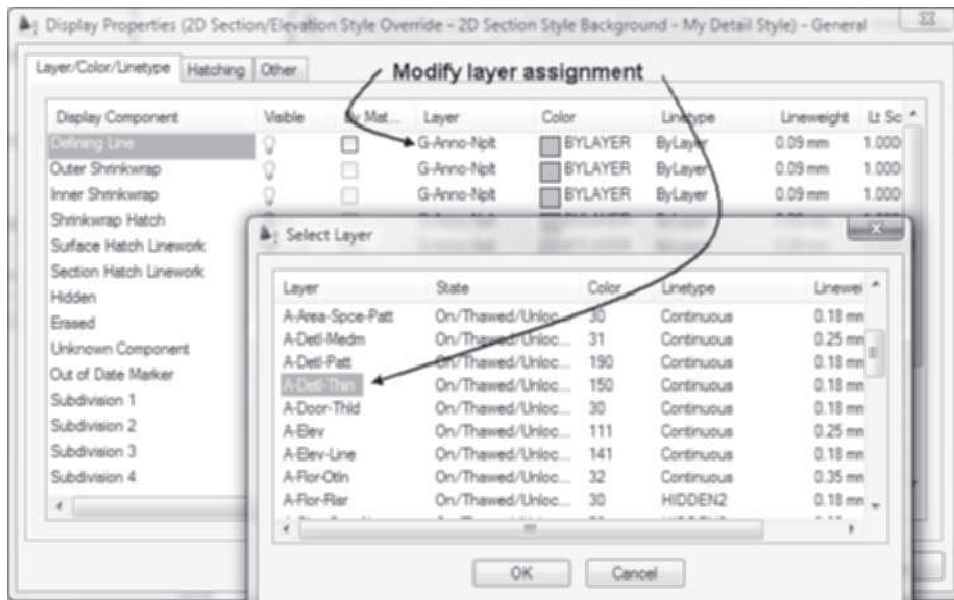

FIGURE 12.37 Modifying the layer assignment for a display component of a detail
4. Choose a display component, **Defining Line**, as shown in Figure 12.37. Choose the **Layer** field for the display component to open the Select Layer dialog box.
5. Choose a layer. A-Detl-Thin layer has been chosen in Figure 12.37.